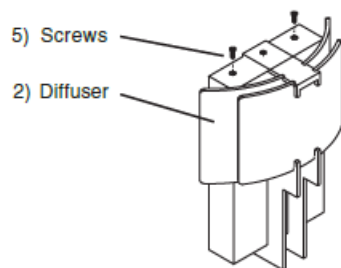
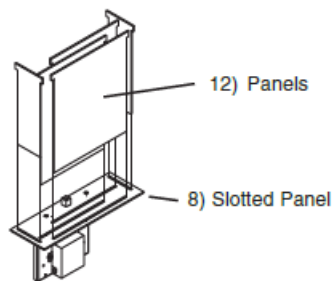
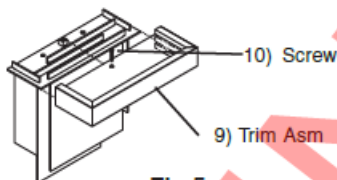

Fig 2
Fig 4
Fig 5
2. Rotate or position Sconce housing (1) so LED's are at the top and the drivers is on the bottom.
3. DLSD3-Install Mounting Bracket (3) by inserting Screw (4) through hole in mounting bracket and secure to housing. Install second screw through slot in bracket and secure to housing. See Fig 1. Align holes in Diffuser (2) with holes in mounting bracket and secure with Screws (5). See Fig. 2.
4. DLSD4- Align holes in Slotted Panel (8) with holes on top of mounting bracket and secure with Screws (5) as shown in Fig
5. Install panels as shown in Fig 4. Slide Trim Asm (9) onto slotted diffuser panel aligning holes and secure with Screw (10). See Fig 5.
2. Align holes in Diffuser (2) with holes in mounting bracket and secure with Screws (5). See Fig. 2.